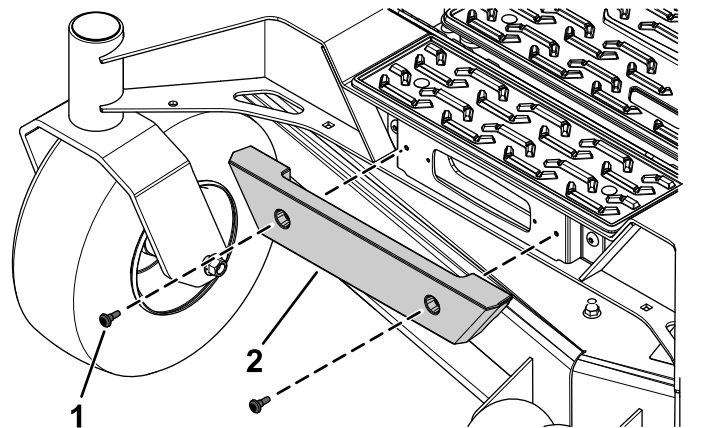

Figure 1
1. Remove the 2 torx-head screws securing the front bumper (Figure 1).
2. Remove the front bumper (Figure 1).